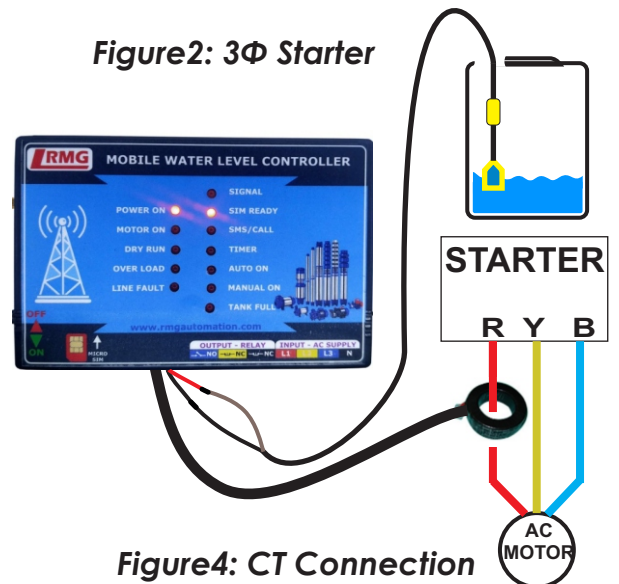

Figure4: CT Connection
Step 6: Immerse the float switch inside the tank and connect black to black and red to brown as shown in figure 4.
Step 7: Remove the output 'R' wire from starter & insert into the CT coil, and connect it back to the starter. (refer figure 4)